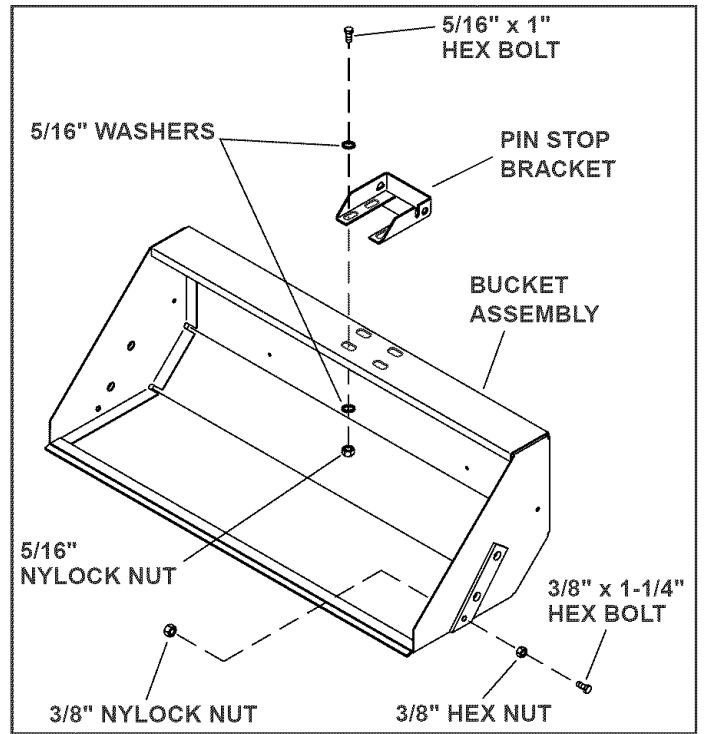

FIGURE 1
- Assemble two 3/8" x 1-1/4" hex bolts and 3/8" hex nuts, threading the nut all the way onto the bolt until it is tight against the head of the bolt. See figure 1.
- Install a nut/bolt assembly into the bucket assembly and fasten using a 3/8" nylock nut. **Tighten.** Repeat for the other side. See figure 1.
- Install the pin stop bracket to the top of the bucket assembly using four 5/16" x 1" hex bolts, eight 5/16" washers and four 5/16" nylock nuts. Center the bolts in the slots of the pin stop bracket and the slots of the bucket. Tighten the bracket so that it is square with the bucket. See figure 1.